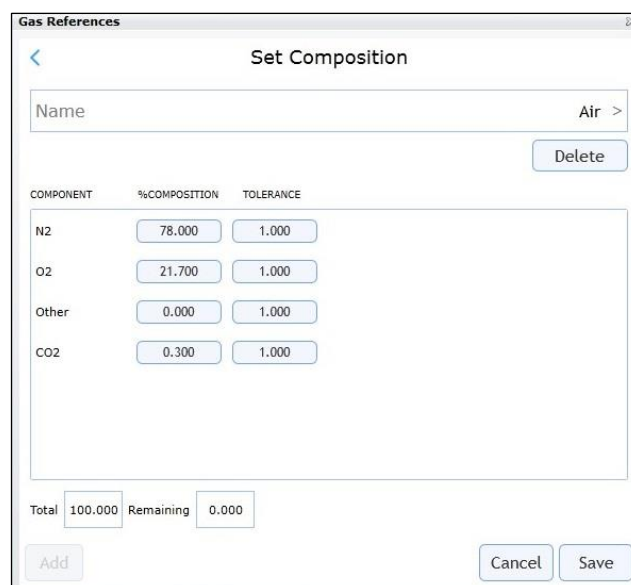

Figure 95. Reference gas composition entry dialog
11. In the Set Composition entry dialog (Figure 95), click the **% Composition** box for each gas in the list and enter the composition values from the new calibration gas cylinder. When this process is completed, make sure that the Total value at the bottom of the dialog is 100. Click **Save** to update this Reference gas.